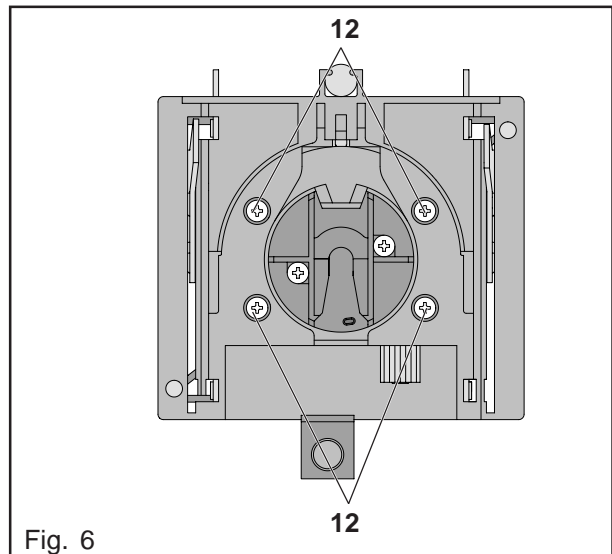

Fig. 6
- Remove the screws (12) from the base of the brewer. (Fig. 6)